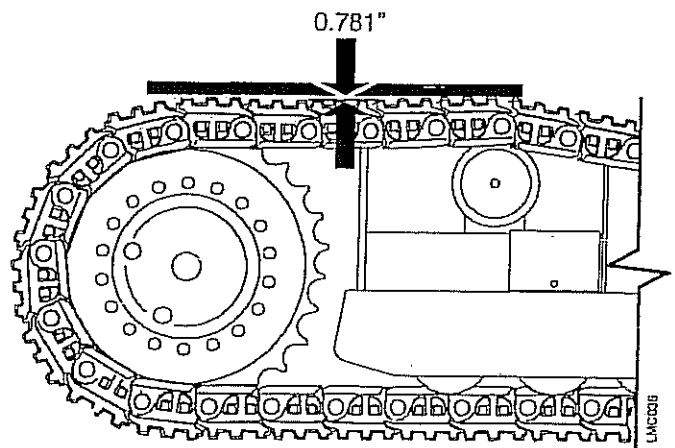

Figure 3-2 Track Adjustment
b. Adjustment - Check track tension and inspect for wear daily to assure maximum track life. If tracks are over tightened, undue wear will occur. Under tightening will allow tracks to come off. Maintain track tension by limiting sag measured halfway between the top roller and the drive sprocket to 0.781". See Figure 3-2. Track tension is adjusted by applying grease through a zerk fitting on the track tensioner.